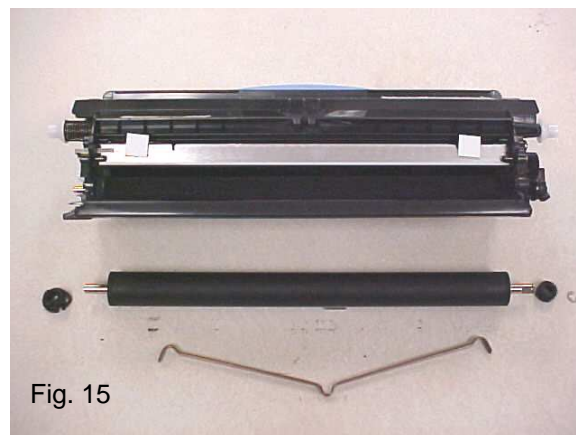

Fig. 15
15. Using compressed air and a vacuum, clean all of the OEM toner from the toner hopper. Carefully remove all toner from the toner adder roller (sponge roller) with the compressed air/vacuum. After toner removal, refill with new toner and reassemble the cartridge in reverse order, ensuring that all contacts are clean (Fig. 15).